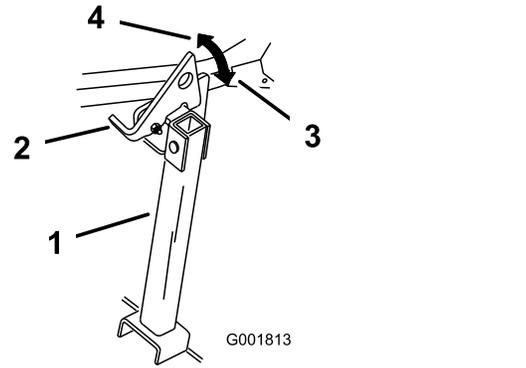

Figure 45
- Raise the latch to the unlocked position (Figure 45).